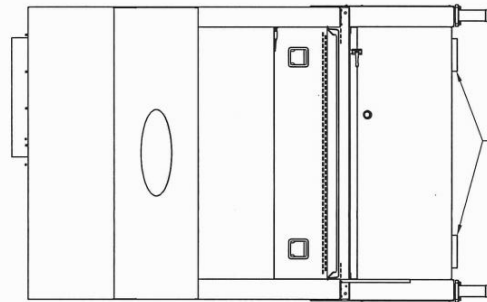

FIG. 3
4. SUPPORT THE BOTTOM OF CABINET (FIG.3) AND REMOVE 3/8-16 BOLTS (2 PER LEG) (FIG. 4).